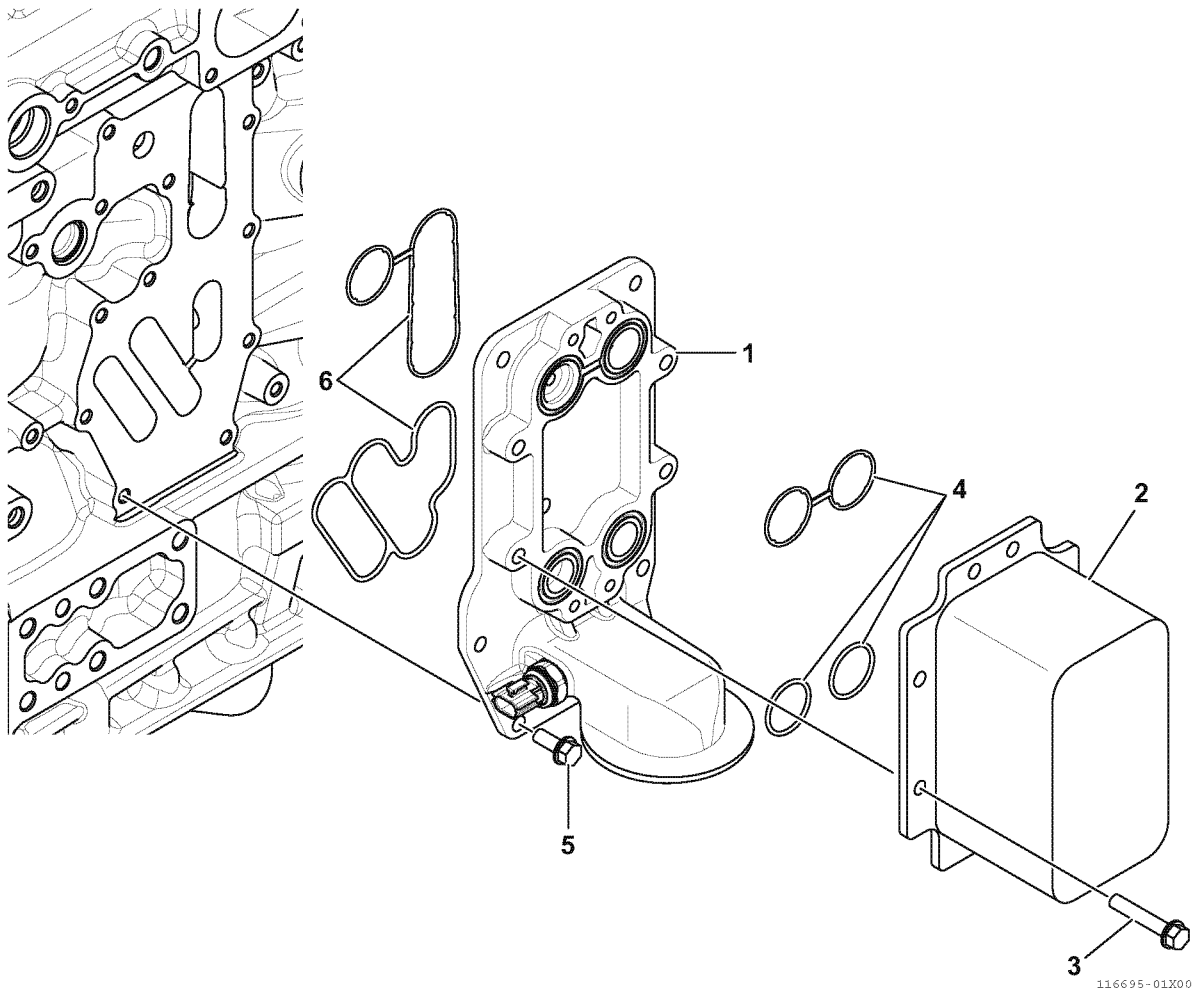

Fig.30-11
1. Loosen the M8 fixing bolts $\times 8$ (3, Fig.30-11) of the lubricating oil cooler (2, Fig.30-11) attached to the lubricating oil cooler bracket (1, Fig.30-11). Remove the gaskets of the three lubricating oil coolers (4, Fig.30-11).
2. Loosen the M8 bolts $\times 8$ (5, Fig.30-11) to attach the lubricating oil cooler bracket to the cylinder block, and remove the lubricating oil cooler bracket. Remove the gaskets of the two lubricating oil filter brackets (6, Fig.30-11).